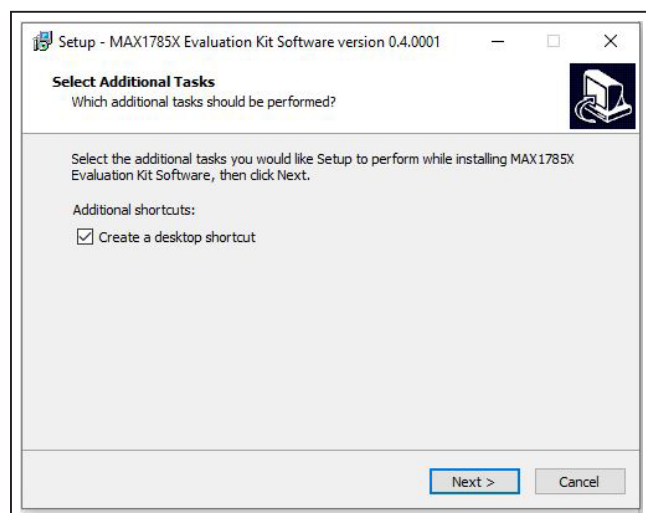

Figure 2. MAX17851 software installation
- 2) Follow the on-screen instructions shown in the pop-up window in Figure 2.